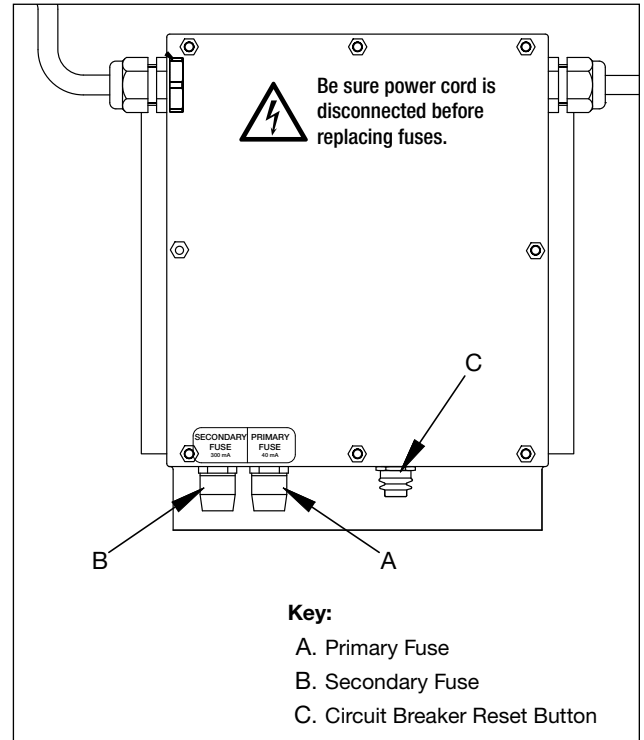

Figure 9, Fuse and Reset Button Locations, Single-Phase Models
6.4 Fuse Replacement (See Figures 9 and 10)
On jacks equipped with a single-phase electrical system, the fuses are located on the lower portion of the jack electrical enclosure. The fuse holders are mounted on the outside of the enclosure and can be accessed without removing the enclosure cover. See Figure 9.
Jack Model Beginning with:	(See figures 9 and 10 for fuse locations)